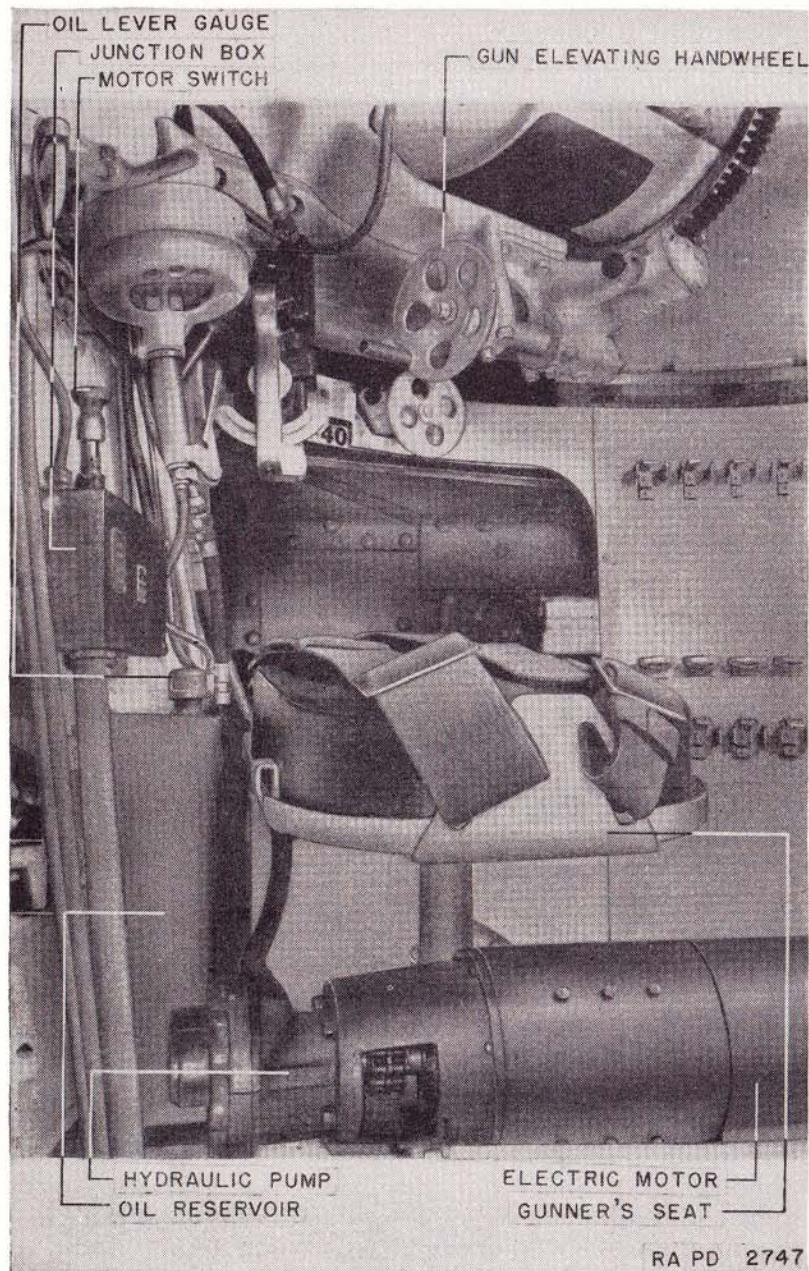

FIGURE 82.—Interior view of turret.
**128. Operation of hydraulic turret control** (fig. 82).—*a.* The turret is traversed by either the hydraulic or the manual traversing systems.